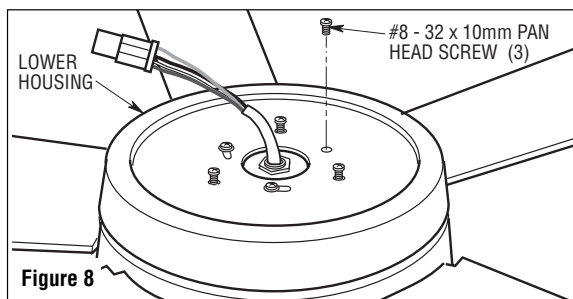

Figure 8
10. Position the lower housing onto the fan motor assembly, aligning each of the three holes. Rotate the lower housing to engage the two loosened screws in the two key hole slots. Replace the #8 - 32 x 10mm pan head screw (removed previously) and tighten all three screws to secure the lower housing to the lower housing adapter. (Figure 8).